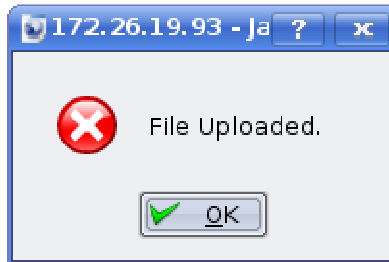

Figure 7: File upload confirmation
4. Click the "Upload File" button to upload the file. A pop-up message window (see Figure 7) will then inform the user whether the upload was successful or not.